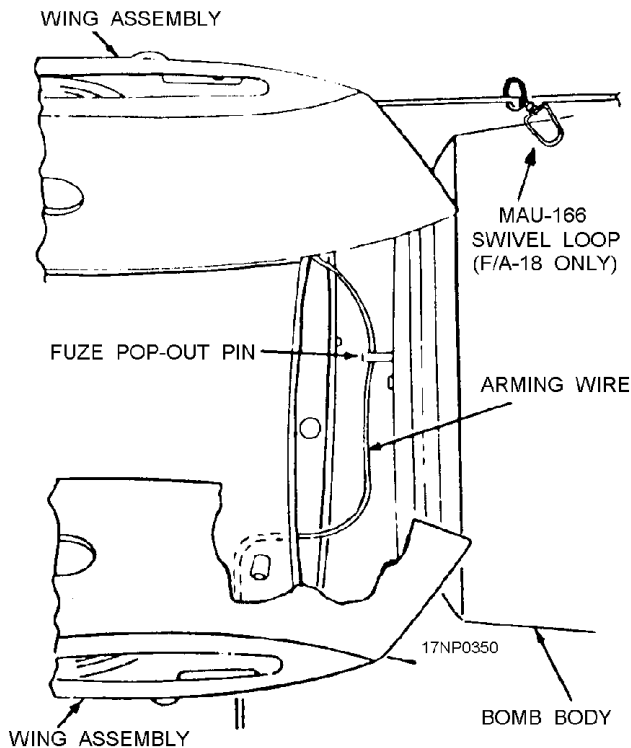

Figure 13-18.—Arming wire installation.
9. Remove the access cover, ensure that no kinks are in the arming wire, and that the wire is not looped around pull-out pin (fig. 13-18).